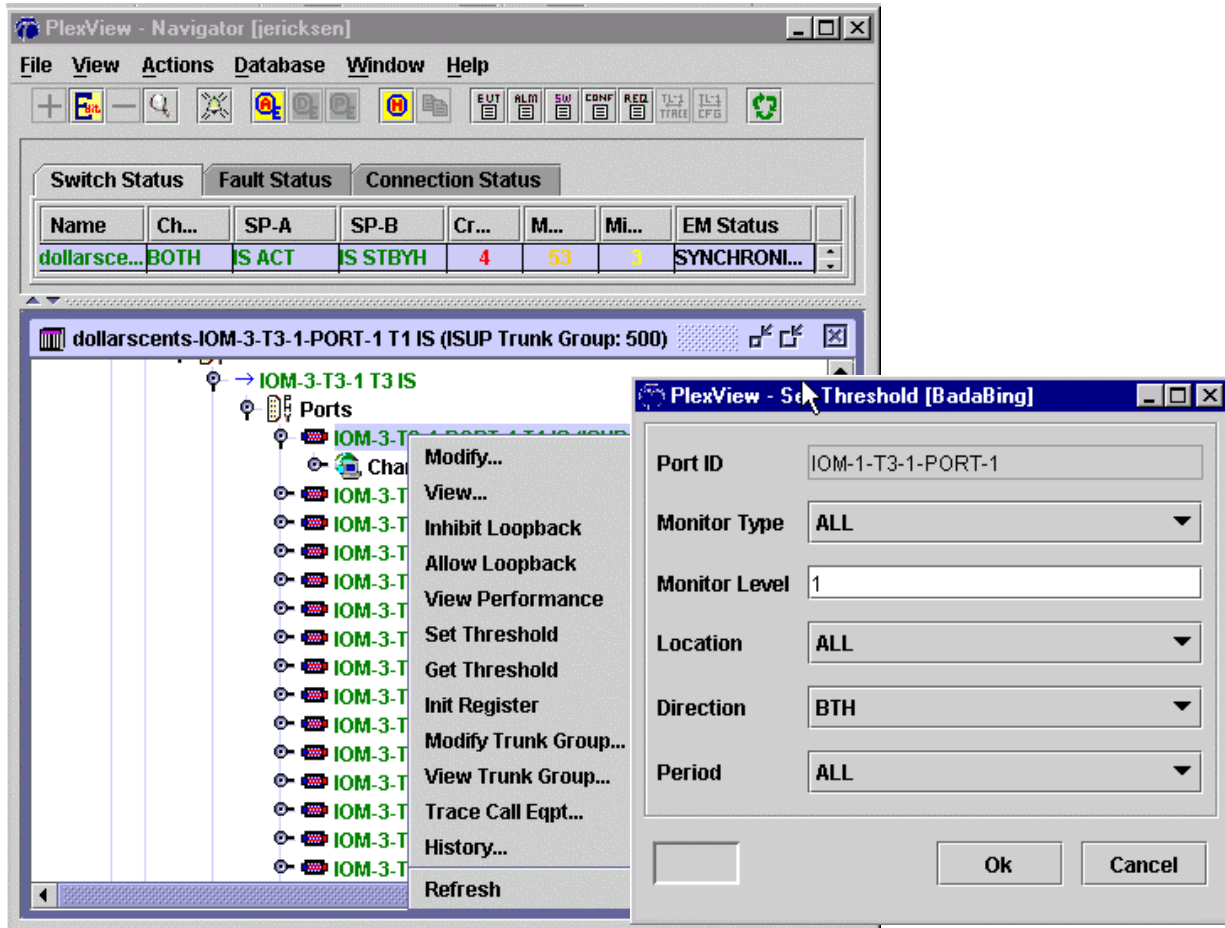

Figure 4. Modify T1 PM Thresholds
8. Set performance monitoring parameter threshold levels. Double-click *Switch*, *Switch name*, *Cards*, desired *IOM*, *Ports*, desired port, and *Ports*. Right-click desired port, select *Set Threshold*. Make required changes and then click *Ok*. Refer to Figure 4.